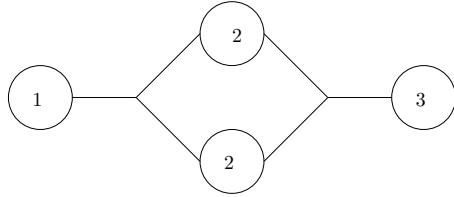

Figure 3.9: Serial system consisting of components 1, 2 and 3, where component 2 has 2 copies
Exercise 11. Consider a serial system consisting of 3 critical components, numbered 1, 2 and 3 (see Figure 3.9). The probability that component 1 works is 0.6. Component 2 works with probability 0.5 and component 3 works with probability 0.7. Component 2 has two copies, and at least one of them has to work for the system to work. Denote by A the availability of the system, that is, A is the probability that the system works.
1. Determine the availability A of the system in Figure 3.9.